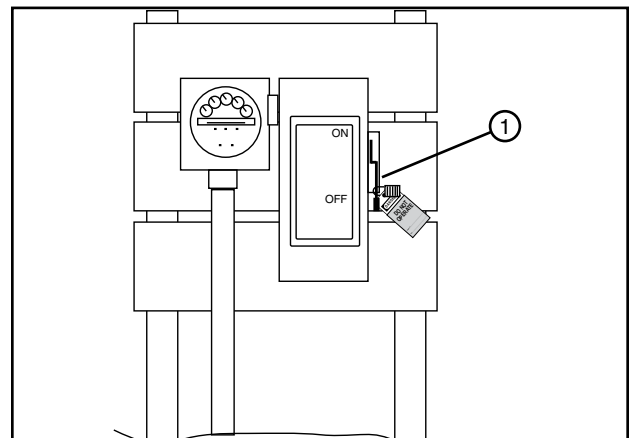

Figure 93-1 1. Public Power Service Disconnect
- a) SHUT OFF and LOCK the public power service disconnect to the irrigation machine. FILL OUT the blue (OSHA safety color code) tag and attach to the disconnect after locking. See figure 93-1.